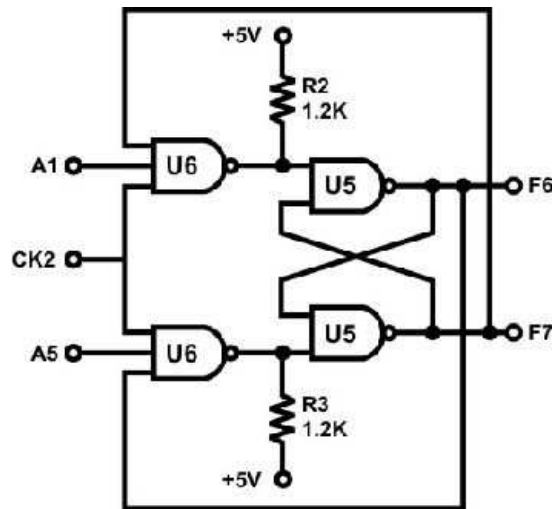

Figure 5.13: JK Latch.
1. Use the KL-33008 module to construct the circuit shown in Figure 5.13.
3. Connect the feedback as shown in Figure 5.13.